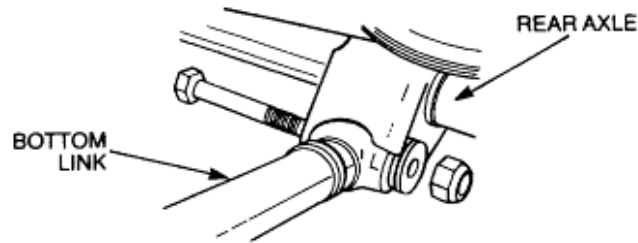

Figure 131 Bottom Link to Axle Bracket Connection
- d. Remove the locknut and bolt securing the bottom link to the axle bracket (Figure 131). Discard the locknut.